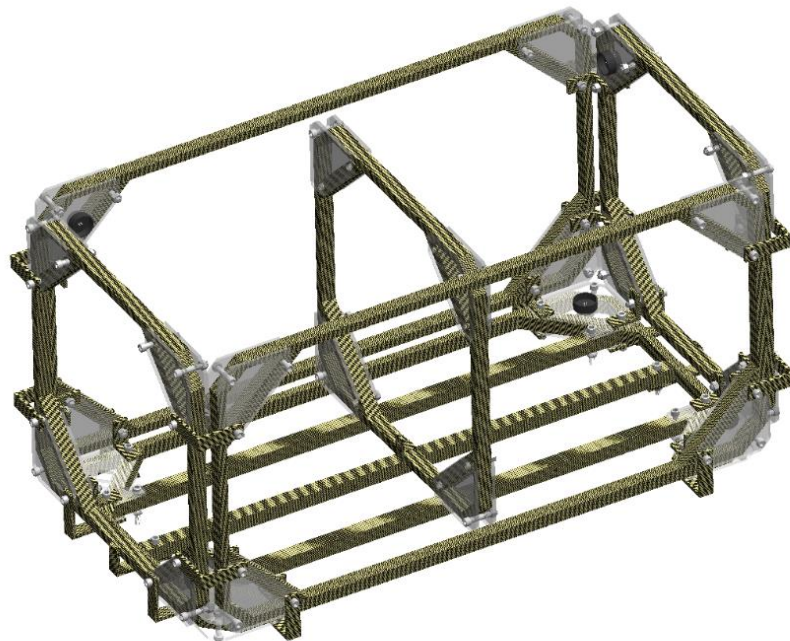

Figure 1.10
11. Align the Middle Coil (PN ASMB003) so that it is centered on the bottom coil both in the long and short direction as pictured in Figure 1.10.